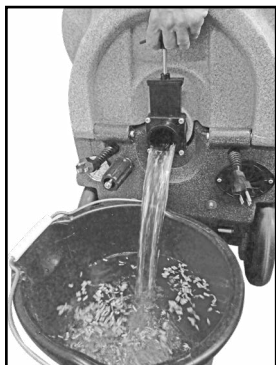

Figure 3
- Drain any remaining water from the recovery tank and dispose of in a sanitary drain. CAUTION: use separate buckets to drain and fill the tank. Even the smallest debris can cause issues (Figure 3)